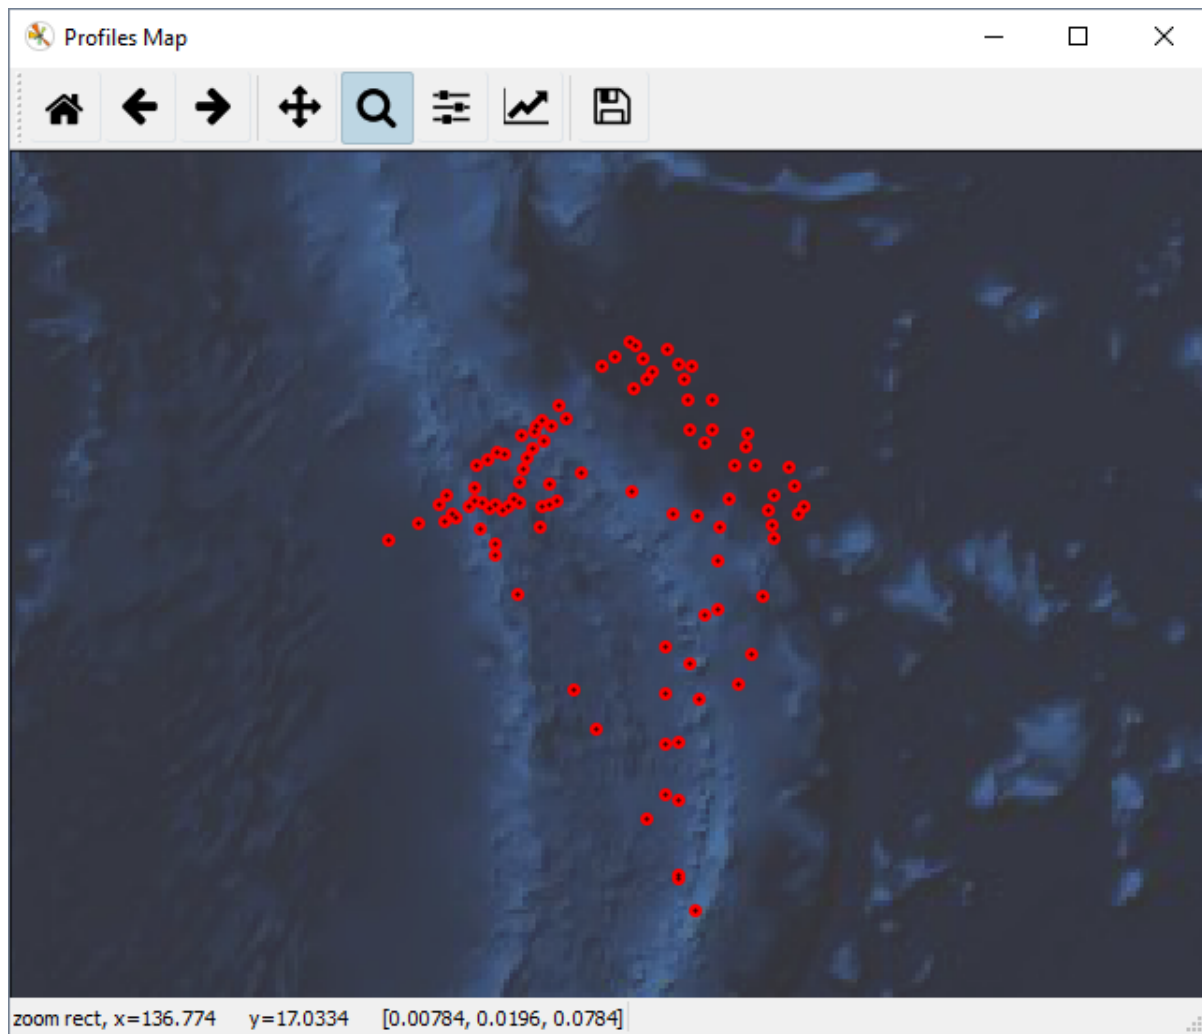
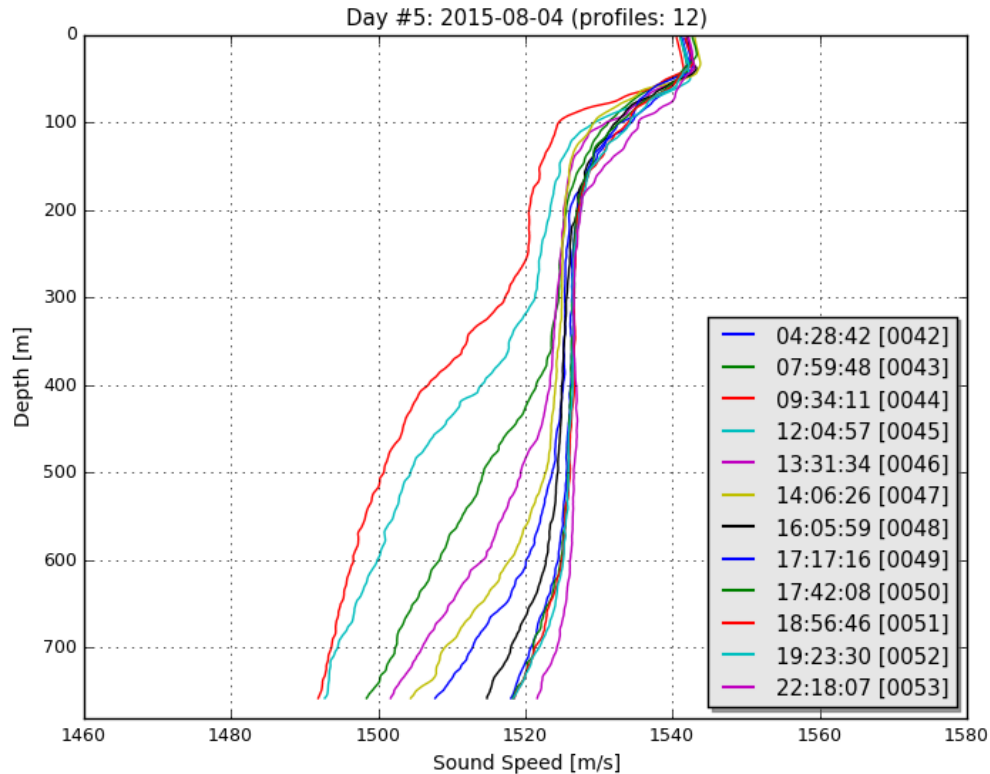
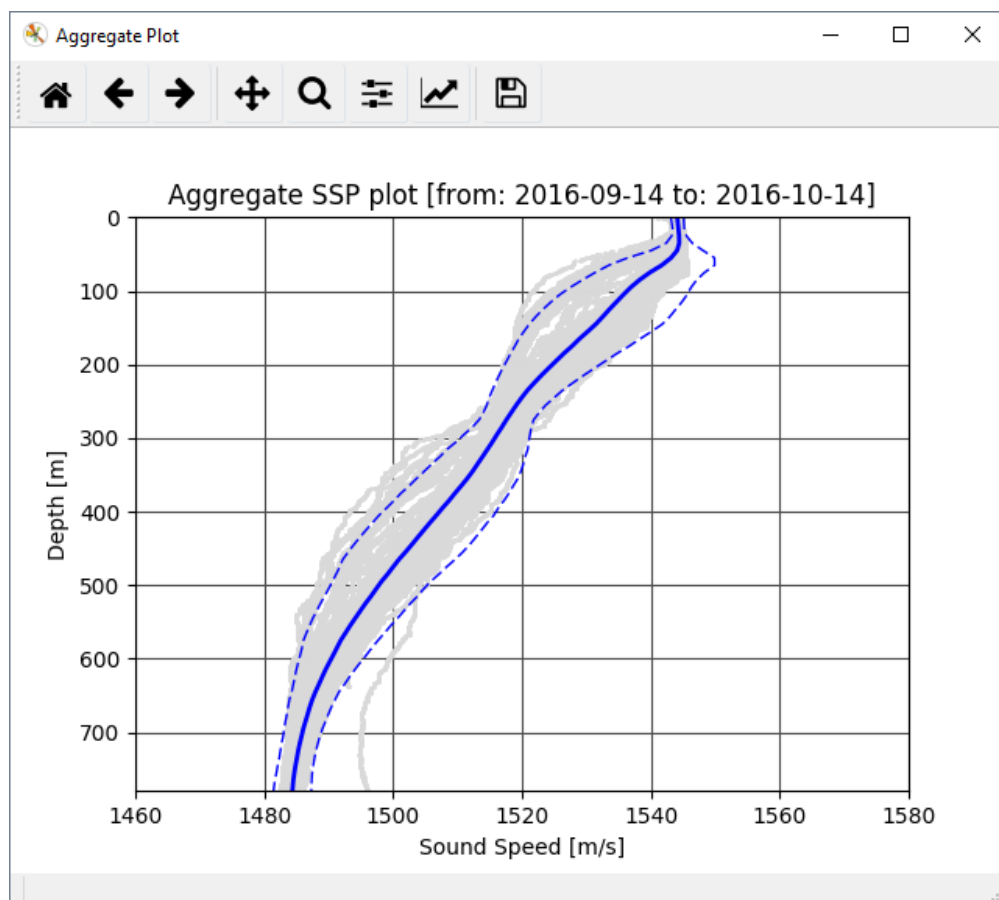

Fig. 2.53: Example of a map created from a stored SSP data set.
Fig. 2.54: Example of a daily plot that can be created from a stored SSP data set.
Fig. 2.55: Example of aggregate plot to study the sound speed variability during a selected time span.
- Create maps (Fig. 2.53) and plots (Fig. 2.54 and Fig. 2.55).